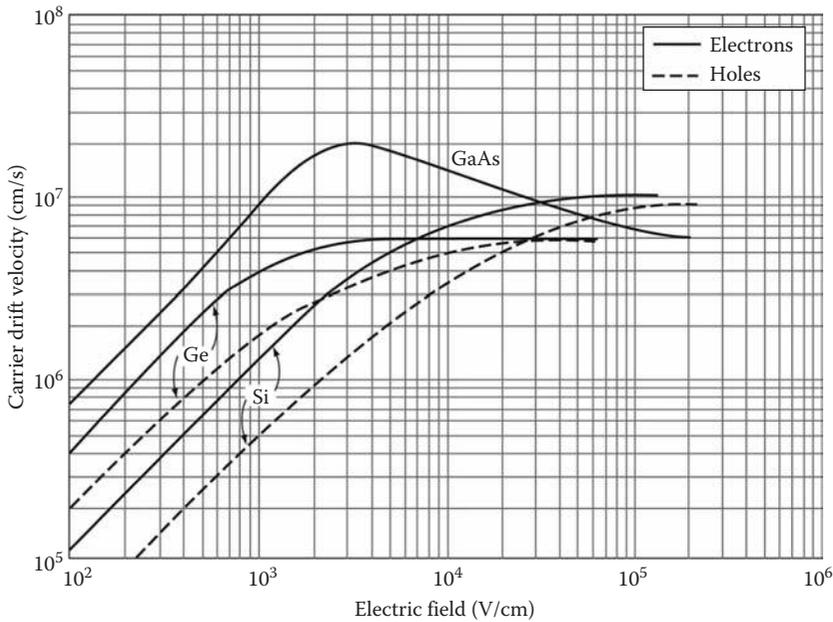

FIGURE 5.22 Electron and hole drift velocities as functions of the applied electric field for Si, Ge, and GaAs at 300 K.
The net result is important. In response to an applied drift field, and in the presence of the various scattering processes: (1) the average drift velocity of the carriers depends on the magnitude of the applied drift field (hence the force driving their motion) and (2) the maximum average velocity of the carriers is finite, and is called the "saturation velocity" (v_s). In lightly doped silicon at 300 K, for instance, v_s is about $1 \times 10^7 \text{ cm/s}$, 223,694 mi/h, about 1/3,000 the speed of light in vacuum (read: mighty darn fast!). The so-called "velocity-field" characteristics of Si, Ge, and GaAs are shown in Figure 5.22. You will note that, for electrons in silicon, it takes an applied electric field of about 20,000 V/cm to reach saturation velocity. This feels like a pretty large field. It is! Here's the example I like to use to illustrate big versus small fields. If you walked into a room, and saw a cable with a bright yellow sign saying "DANGER 20,000 V!" pasted on it, would you walk up, stand
You will also note from Figure 5.22 that at a low electric fields (say below 1000 V/cm for electrons in silicon), the average drift velocity depends linearly on the drift field. Given this functional relationship, for convenience, we define a new parameter known as the a low-field carrier mobility, or just a mobility (μ_n or μ_p, measured in units of cm²/V s), such that $\bar{v}_{drift} = \mu \mathcal{E}$.